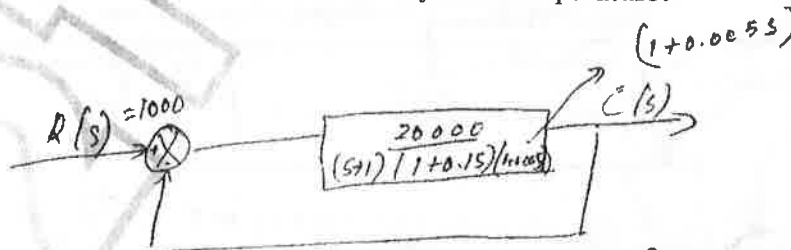

Figure 2
3. The block diagram shown in the Figure 2 represents a heat treating oven. The set point is 1000° C. What is the steady-state temperature?